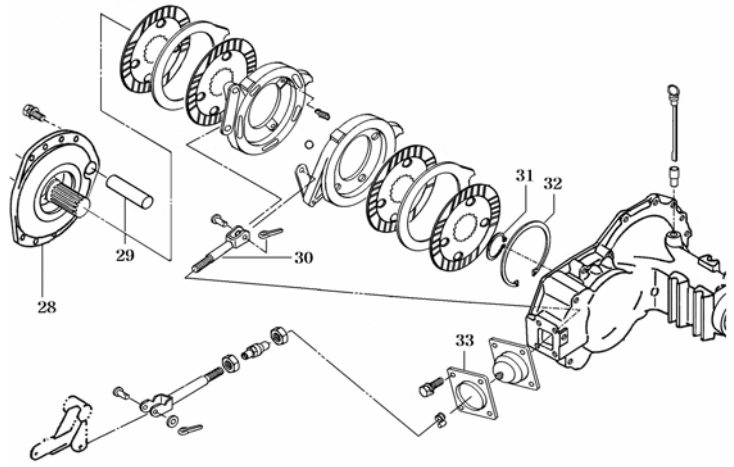

Fig.7-6
- 7) Remove the snap ring of wheel pinion (Fig.7-6) And individually separate the friction plates, actuator and separator plates from each other.